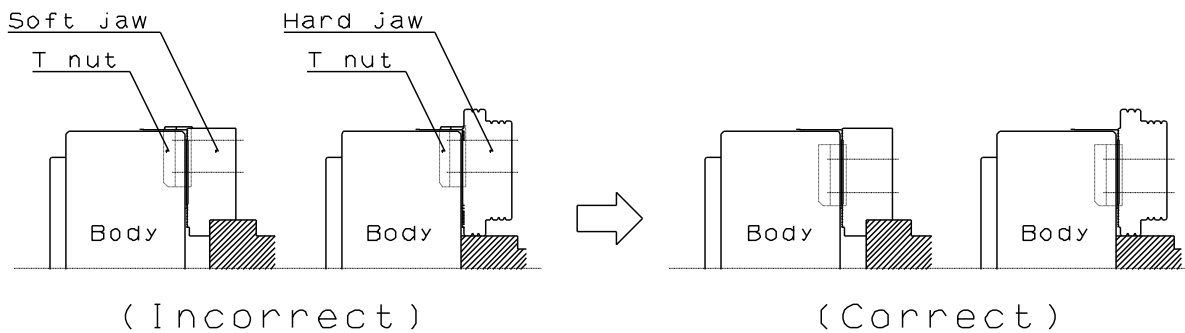

Fig.9
- Use the T nut so that it does not come out from the master jaw. (Refer to Fig.9)